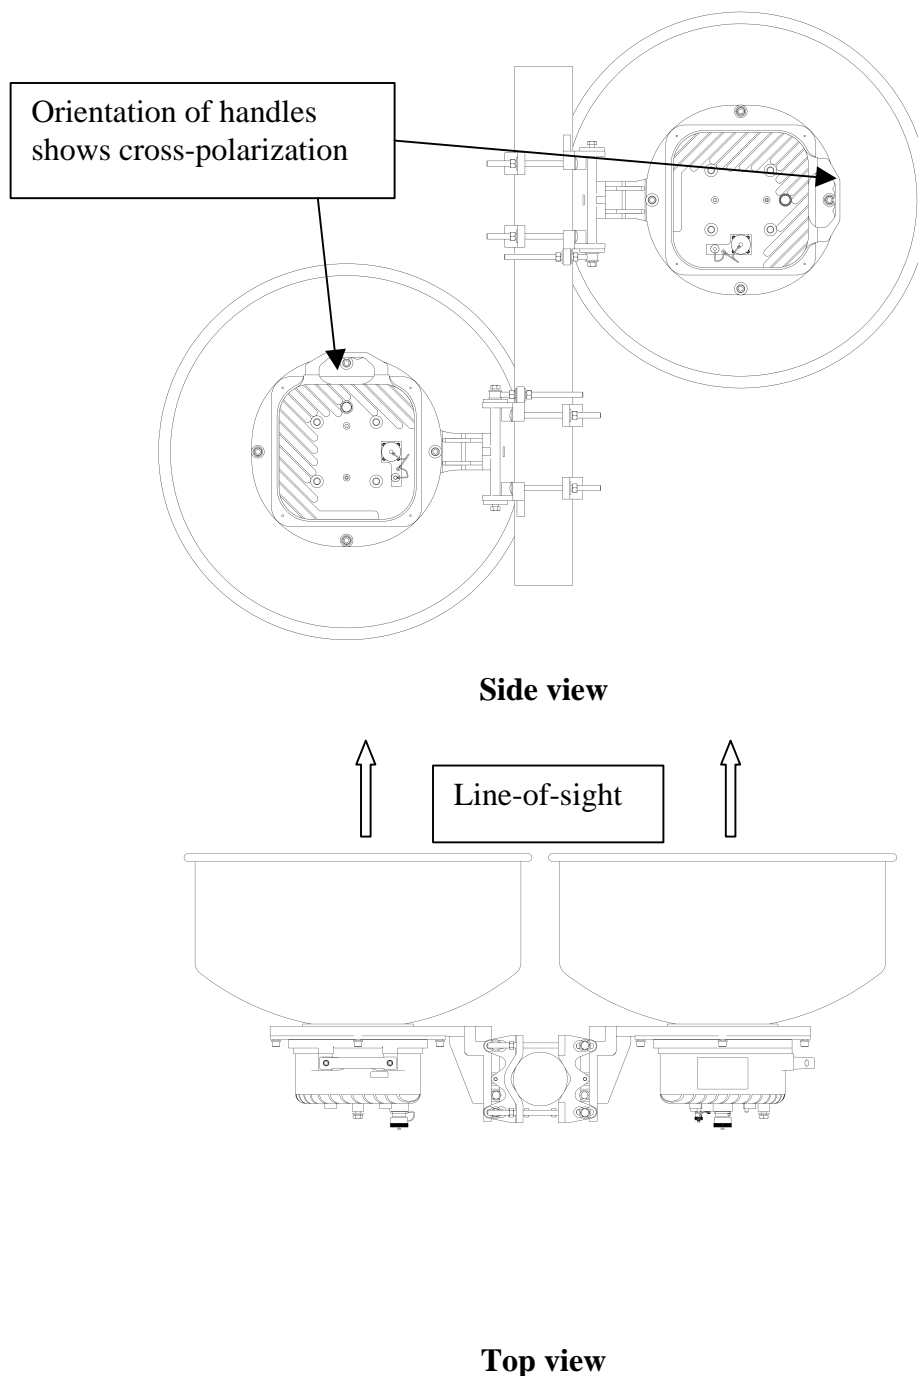

Figure 5b. Two Access Units with Same Line-of-Sight
b) An installation involving two Access Units on the same mast (two separate links) and pointing in the same direction requires one Access Unit positioned for horizontal polarization (Carry handle located on top or bottom of Access Unit). The second Access Unit should be positioned for vertical polarization (Carry handle located on either side of the Access Unit). See Figure 5b.